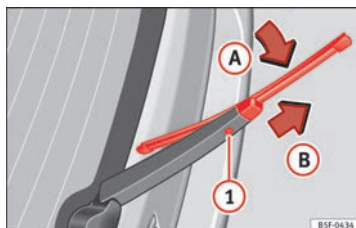

Fig. 74 Changing the rear wiper blade
- Turn the blade slightly ⇒ Fig. 74 (arrow A).
- Hold down the release button ① while gently pulling the blade in the direction of the arrow B.
- Insert a new blade of the **same length and type** in the rear wiper arm in the opposite direction to the arrow (B) and hook into place button (1).